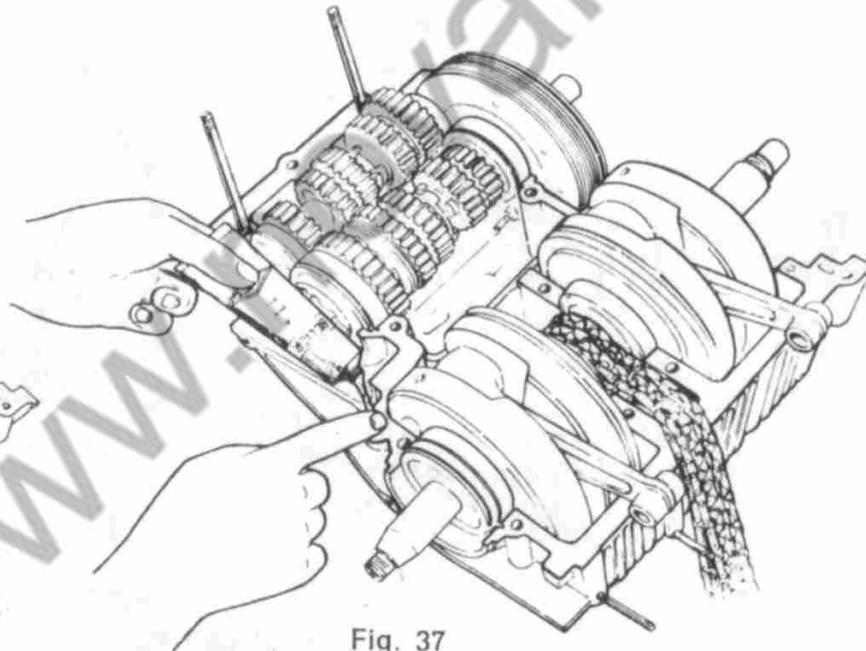

Fig. 37
- 4) Spread a thin layer of gum evenly (Fig. 37) on the surface supporting the crankcase half covers.